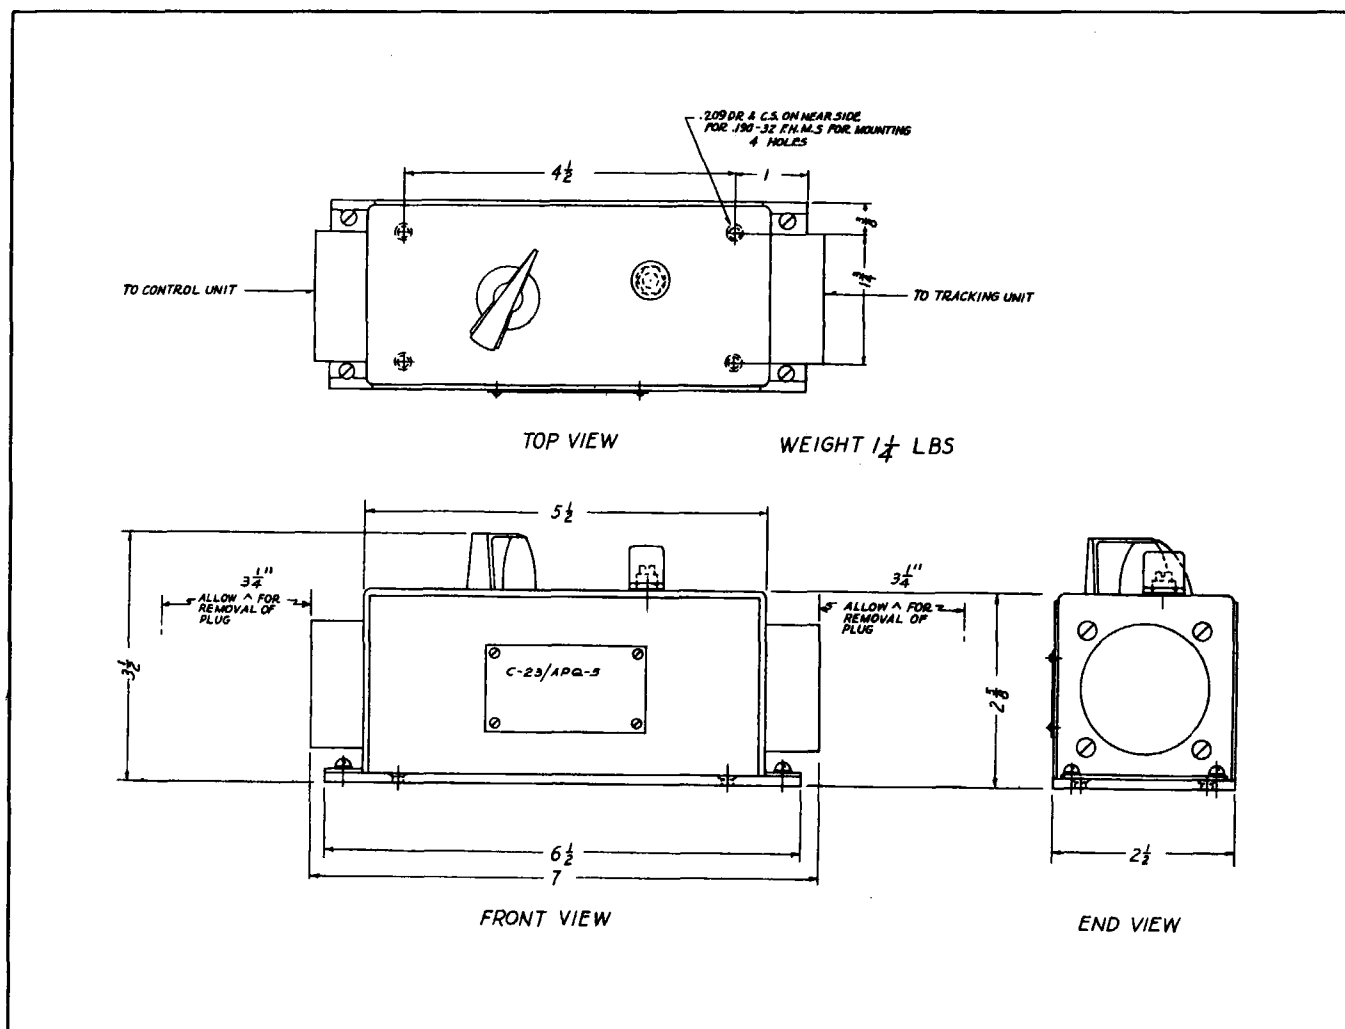

Figure 2-3. Control Box C-23/APQ-5—Outline Dimensions
(3) *CONTROL BOX C-23/APQ-5 AND MOUNTING MT-49/APQ-5.*—The control box is attached to its mounting plate with four screws while the mounting plate is secured to the supporting surface by four No. 10 flathead screws. Since this control box is connected between Control Box C-6/APQ-5 and Tracking Unit C-7/APQ-5, locate it between these units within convenient reach of the operator. (See fig. 2-3.)